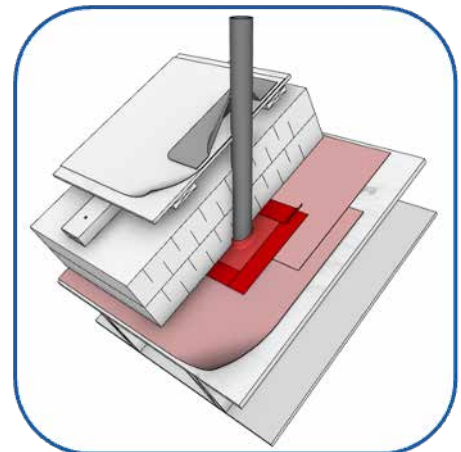

Figure 8 Air seal at plumbing vent penetration using EPDM gasket and perimeter tape.
- Figure 8 Air seal at plumbing vent penetration using EPDM gasket and perimeter tape. . . . . 12